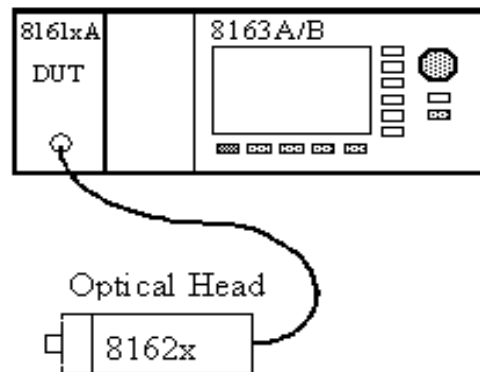

Figure 9 Functional Test Setup
- 1 Set up the equipment as shown in Figure 9